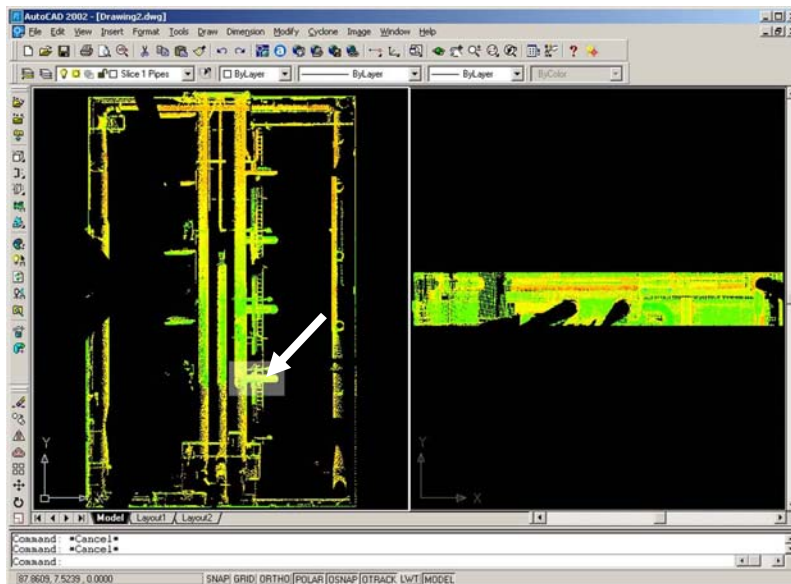

Figure 7.
2. With the "Plane Slice" cutplane still active, zoom in on the area indicated by an arrow below in *Figure 7*.